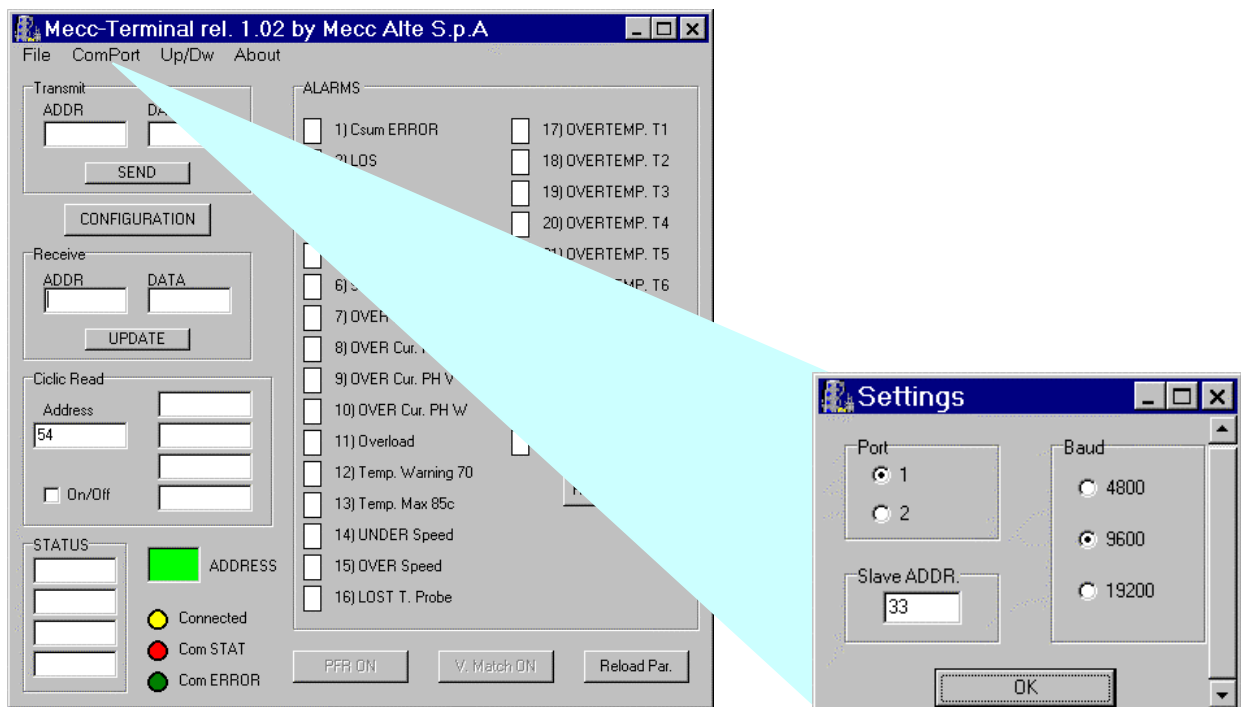

fig. 8
When the user interface is opened, it appears as shown in fig. 8
2. **Settings** opens a window as shown in fig. 8, with which it is possible to set some parameters necessary for communication.